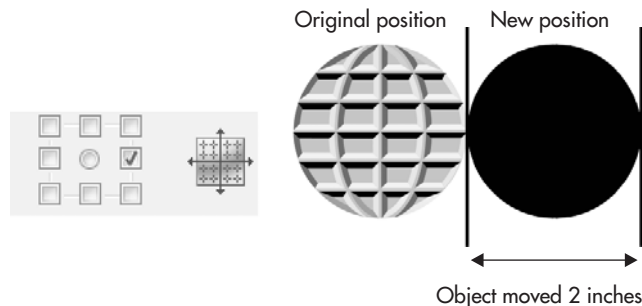

FIGURE 9-9 This object was precisely moved by applying a Position transformation.
Options for the Position page will move your object selection a specified distance, either *vertically (V)*, *horizontally (H)*, or to a specific point on your document page, as shown in Figure 9-9.